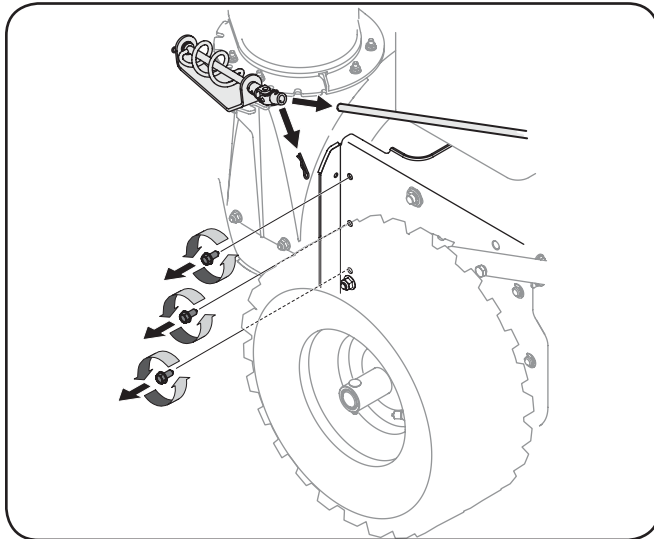

Figure 7-1
1. Remove the chute crank rod from the chute crank assembly by removing the hair pin clip shown in Fig. 7-1. Move the chute crank rod away from the assembly as shown.
2. Remove three self-tap screws on both sides of the transmission housing as shown in Fig. 7-1.
4. From both sides of the frame assembly, use a 1/2" wrench to remove the three hex tap screws securing the transmission frame to the auger housing assembly. Refer to Fig. 7-1. Do not remove the lower hex flange lock nut on each side.